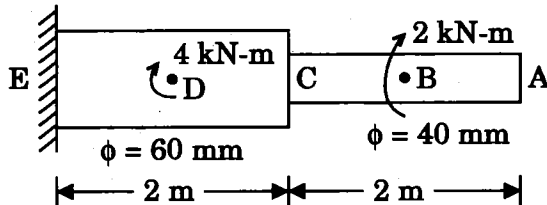

Figure 4
8. The stepped shaft shown in Figure 4 is subjected to a torque at B and D of magnitude 2 kN-m and 4 kN-m respectively. Find the angular rotation of the free end at A. Take $G = 80 \text{ GPa}$.